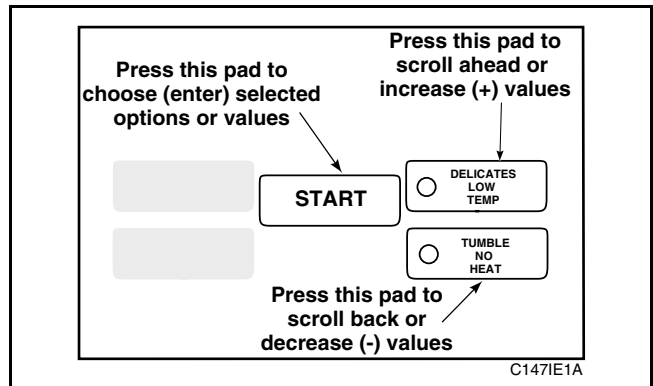

Figure 81
5. Press the LOW TEMP (+) pad or the NO HEAT (-) pad to increase or decrease the minutes to the correct time, *Figure 81*.